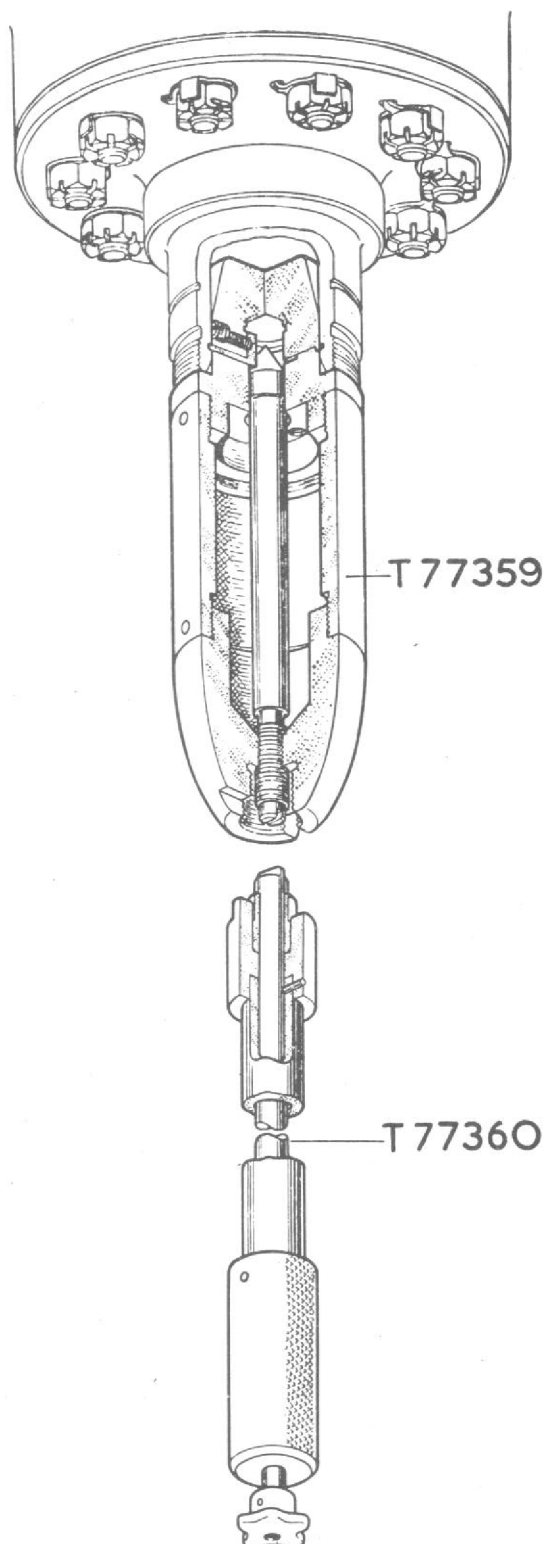

Fig. 6. Guide mandrel assembled in impeller pivot bore
- (9) Position the sleeve of the special spanner T77360 in the threaded bore of the impeller guide mandrel; engage the screwdriver in the slot (fig. 6) and unscrew the rod. Remove the guide mandrel from the pivot bore.